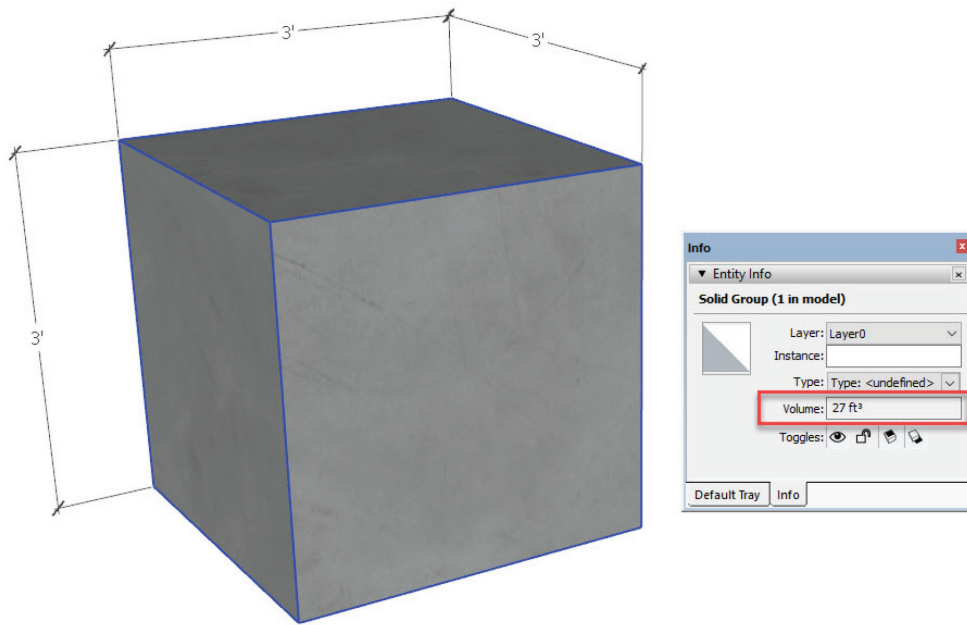

Figure 18.1 Attributes.
Let's revisit the cubic yard of concrete that you learned how to model earlier in the book. I currently have a solid group. A cube that is exactly $3' \times 3' \times 3' = 27$ cubic feet (CF) = 1 cubic yard (CY), as shown in Figure 18.1.